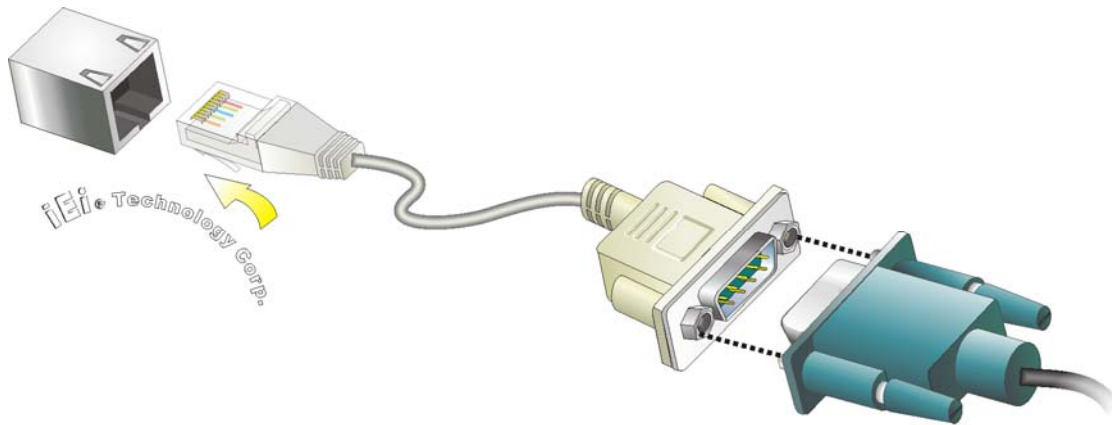

Figure 3-11: Serial Device Connector
Step 3: Insert the serial connector. Insert the DB-9 connector of a serial device into the DB-9 connector on the cable. See **Figure 3-11**.